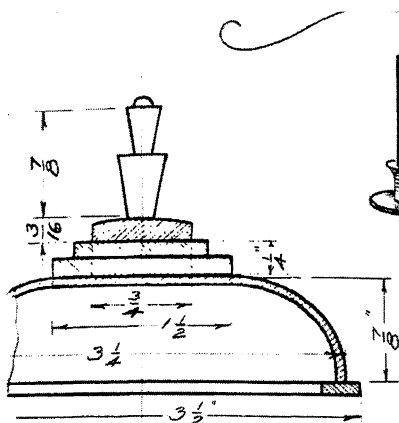

FIG. 5
4. Make the lower base ring; fit and solder to the base (Fig. 5).